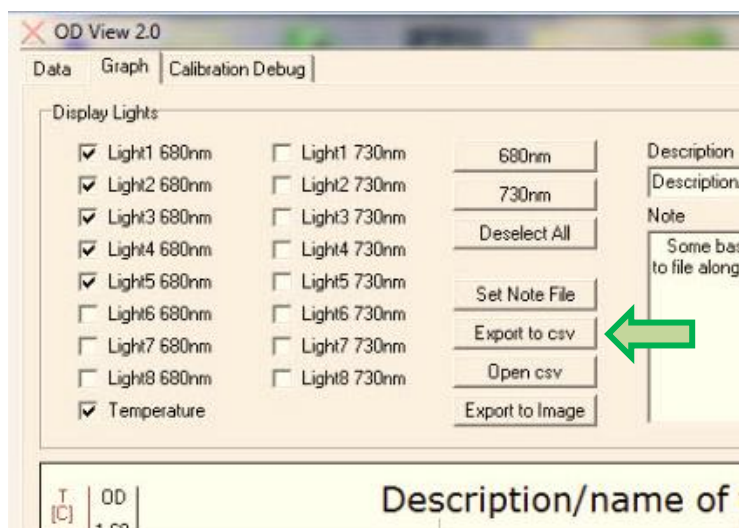

Fig. 24 Data export and data selection functions window.
37. The logged data can then be exported to .csv file using the buttons shown in Fig. 24 and further analyzed as required using a spreadsheet program such as Excel.